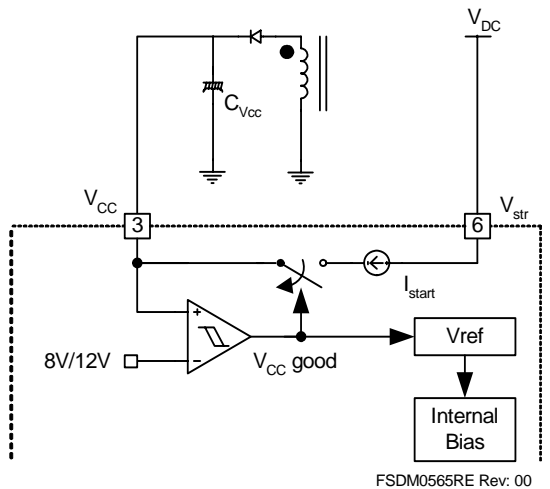

Figure 17. Internal Start-up Circuit
**1. Start-up:** In previous generations of Fairchild Power Switches (FPS™), the  $V_{CC}$  pin had an external start-up resistor to the DC input voltage line. In this generation, the start-up resistor is replaced by an internal high-voltage current source. At start-up, the internal high-voltage current source supplies the internal bias and charges the external capacitor ( $C_{VCC}$ ) connected to the  $V_{CC}$  pin, as illustrated in Figure 17. When  $V_{CC}$  reaches 12V, the FSDM0x65RE begins switching and the internal high-voltage current source is disabled. The FSDM0x65RE continues normal switching operation and the power is supplied from the auxiliary transformer winding unless  $V_{CC}$  goes below the stop voltage of 8V.